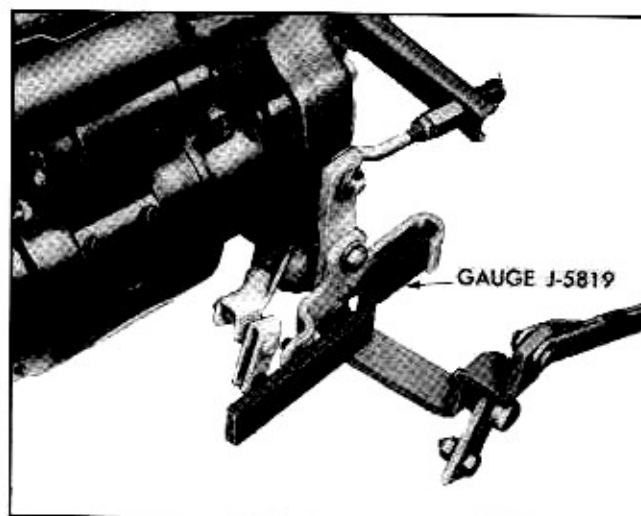

Fig. 6C-4 Gauge in Place to Adjust Overcenter Spring Lever
4. Install gauge J-5819, inserting pins which are closest together into holes in overcenter spring link and lever from which push rod was removed. Then, while applying rotation to the clutch countershaft to hold clutch pedal against stop, rotate overcenter spring lever until third pin in gauge can be inserted in hole in overcenter spring lever (Fig. 6C-4).
2. Remove clutch bearing support spring washer (Fig. 6C-1).